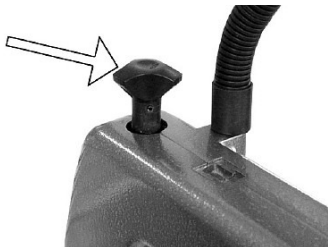

Fig. 11: Loosen the saw blade
Step 3: Fold the saw blade guard up and loosen the saw blade (Fig.11).
Step 5: Tighten the saw blade (Fig. 11) and fold down the saw blade guard.
Step 3: Fold the saw blade guard up and relax the saw blade (Fig.11).